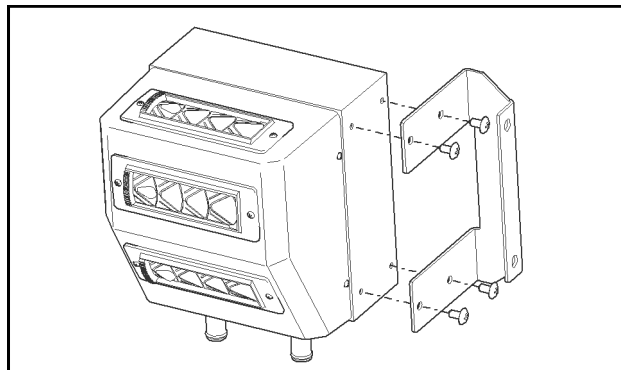

Fig. 19.1 (Pre-Assemble Heater to Bracket)
- 19.1** Pre-assemble the heater bracket onto the heater using the screws already installed on the side of the heater. See Figure 19.1. Tighten hardware.